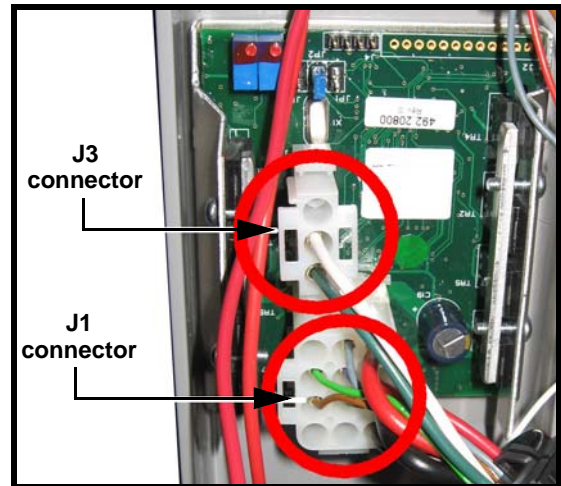

Fig. 25
- 2) Unplug J1 and J3 connectors (see Fig. 25).
- 3) The circuit board is held in place by two strips of double sided adhesive acrylic foam tape. Using a short flat head screw driver, gently remove the main circuit board (see Fig. 25).
- 4) Replace the new main PCB circuit in place as shown on Fig. 25, securely fastening the two screws and bars on each side.